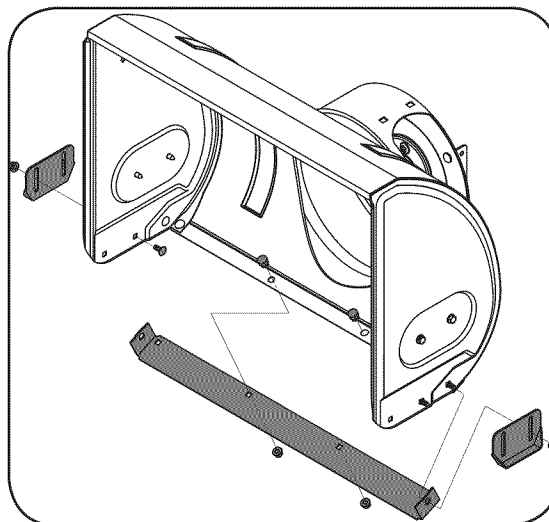

Figure 19
1. Remove four carriage bolts and lock nuts which attach two skid shoes to the snow thrower on two sides. See Figure 19.
1. After removing both skid shoes, remove four carriage bolts and lock nuts which attach shave plate to the snow thrower housing. See Figure 19.